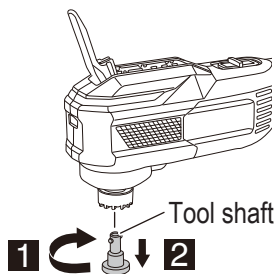

Fig. 10
- (2) Pull out the tool shaft while rotating it counterclockwise. (**Fig. 10**)